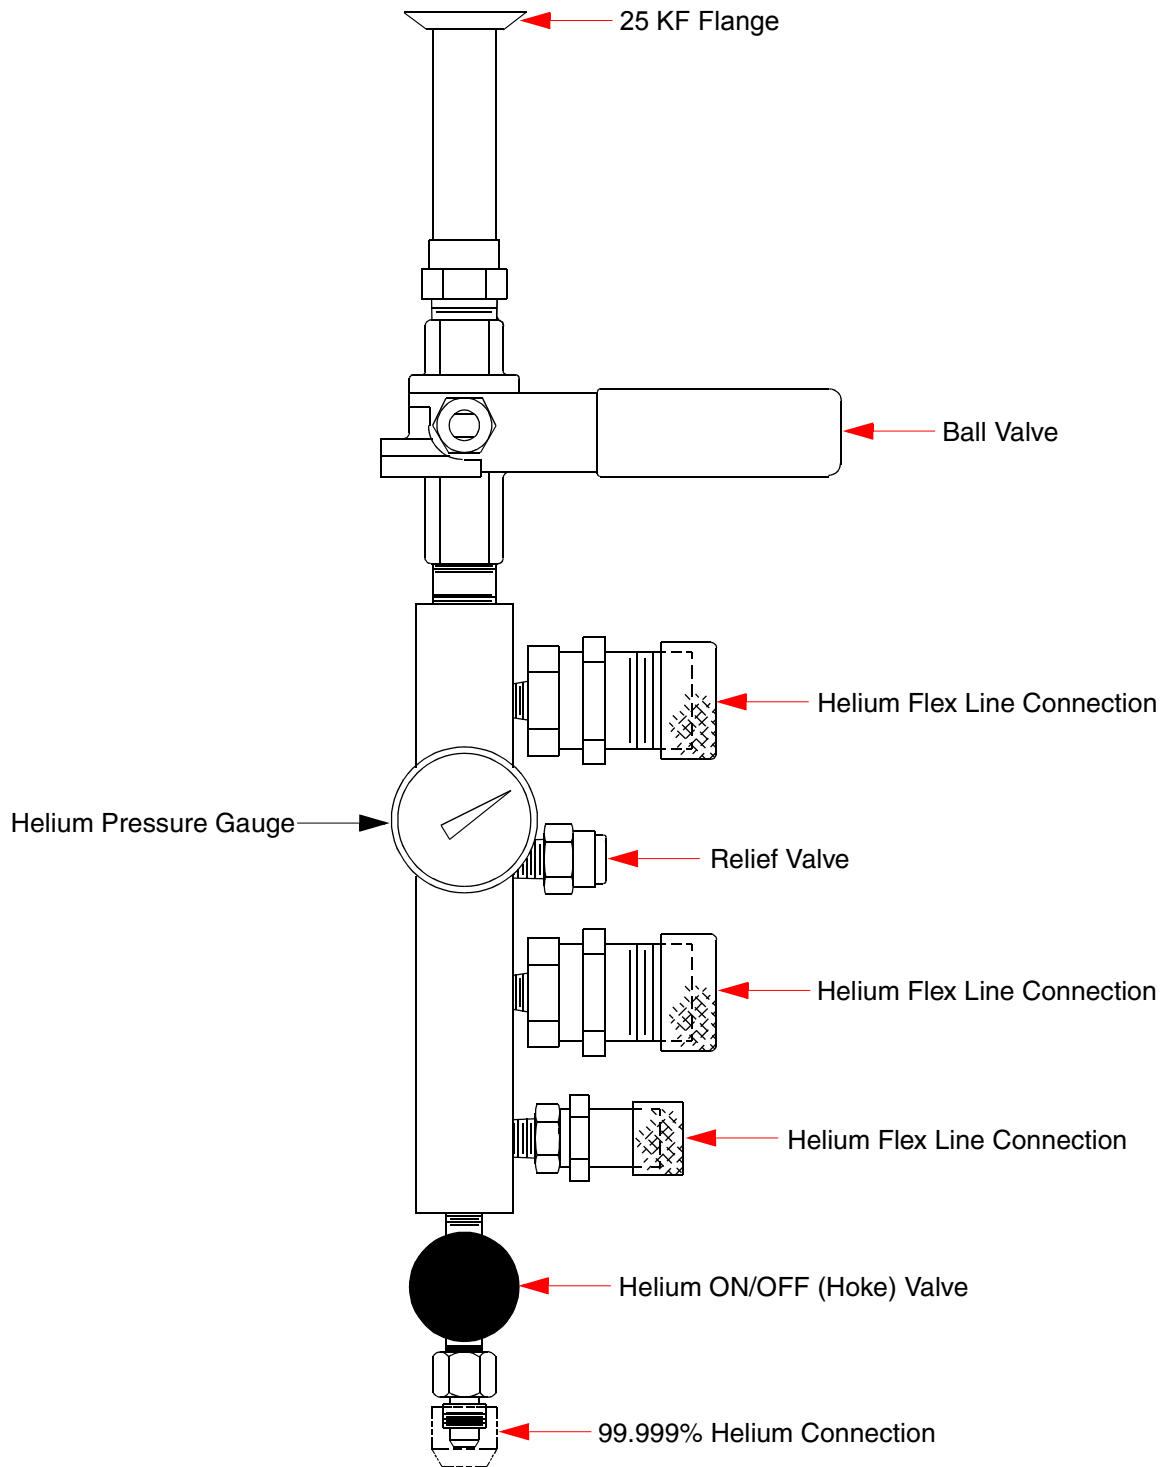

Figure 4-3: Maintenance Manifold Part Number 8032051G004
- c. Loosely connect the charge line to the closed Hoke valve on the maintenance manifold. Refer to Figure 4-3.